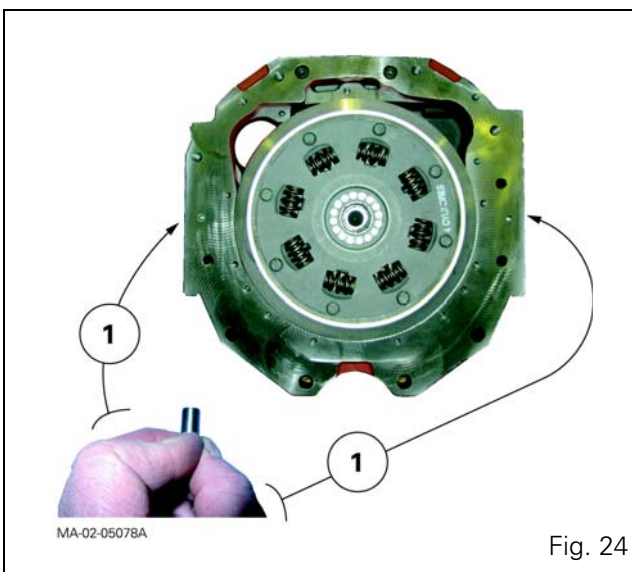

Fig. 24
53. Check for the presence of locating pins (1) on the engine adapter plate (Fig. 24).